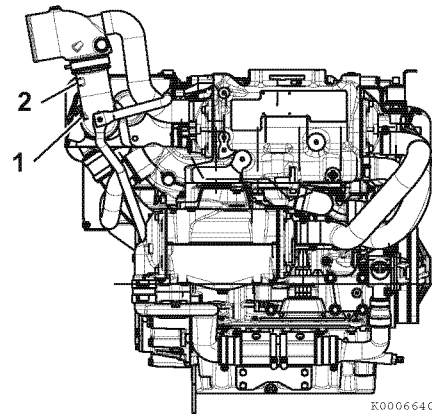

Figure 7-5
6. **Engines having the optional high-rise exhaust elbow:** Open drain cock (1, **Figure 7-5**) and allow water to drain. Remove and inspect anode (2, **Figure 7-5**).